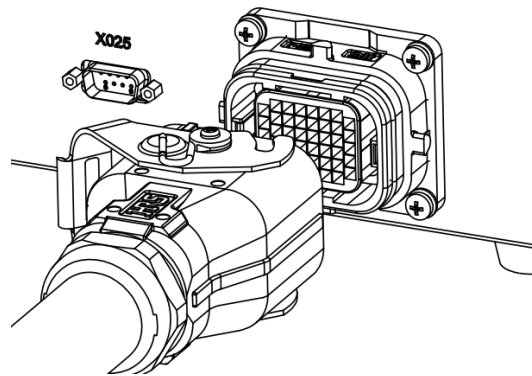

Figure 5-7 Control cabinet heavy-duty connector interface
- Step2. Connect the control cabinet, insert the plug at one end of the heavy load line into the heavy load line connection port of the control cabinet (see Figure 5-7), and fasten the lock.